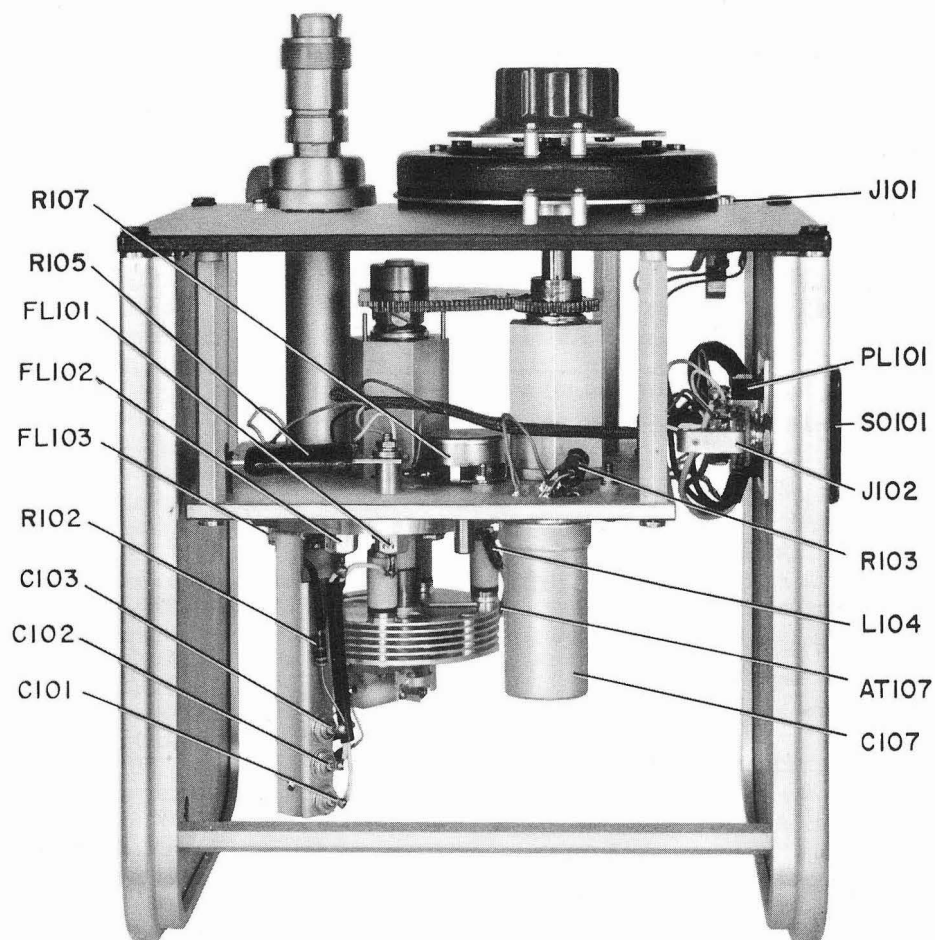

Figure 6-4. Interior top view of Type 1362 Oscillator with shield cover removed.
d. Slide the rf shield cover off. Figure 6-4 identifies the major interior components.